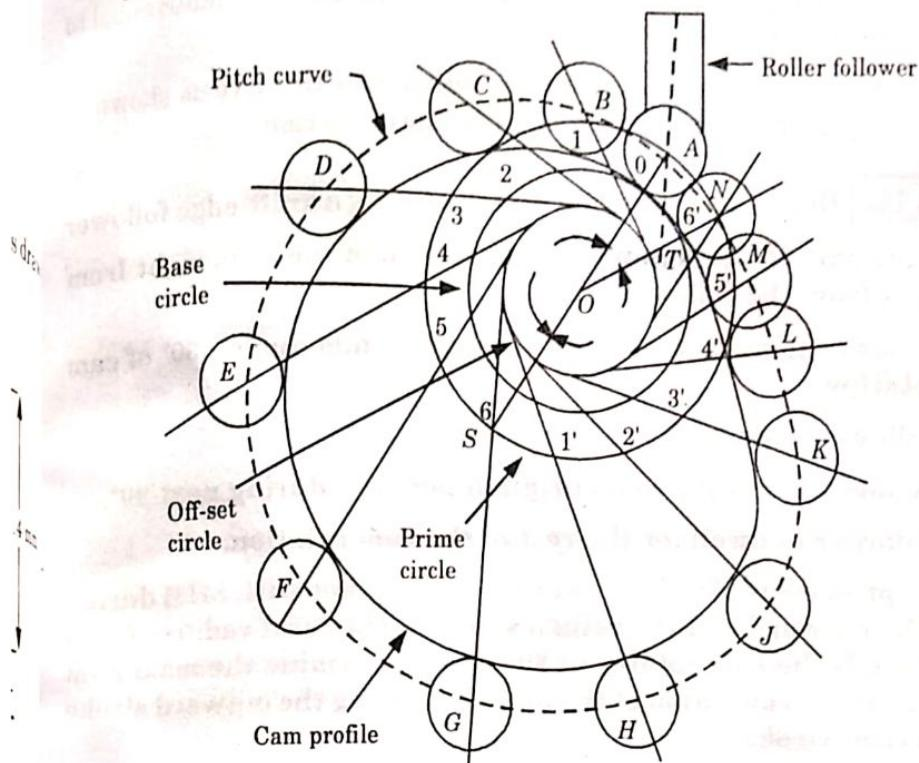

Fig. 2.10.2.
2. Now the profile of the cam, when the line of stroke of the follower is offset 10 mm from the centre of the cam, as shown in Fig. 2.10.2, is drawn as discussed in the following steps :
- x. Join the bottoms of the circles with a smooth curve as shown in Fig. 2.10.2. This is the required profile of the cam.